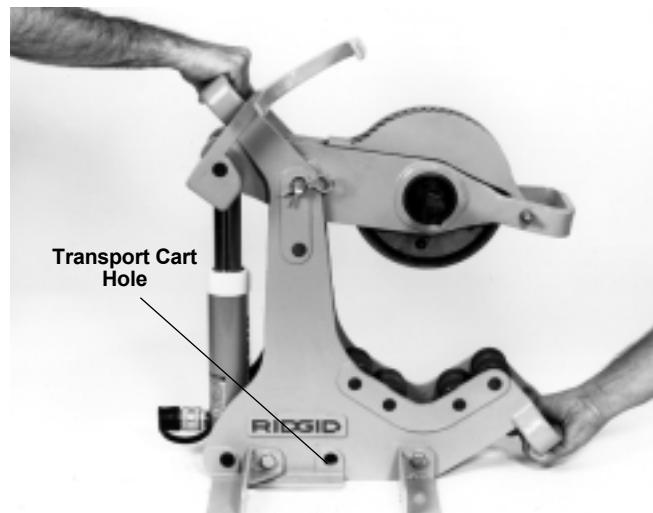

Figure 14 – Hand-holds for Transporting
1. The 258 and 258XL are designed with hand-holds located at top rear, and bottom of frame front, for transporting the cutter (*Figure 14*). Do not use pivot arm handle to transport, as it may cause damage to the hydraulic cylinder.
A two wheeled cart is available as an accessory to allow for easier transporting. This transport cart, (see catalog for ordering information), is compatible with the 258 (2½" – 8") as well as the 258XL (8" – 12"). By using a "J" clamp on the top frame handle along with a hitch pin through a frame hole (*Figure 14*), the transport cart can easily be installed.